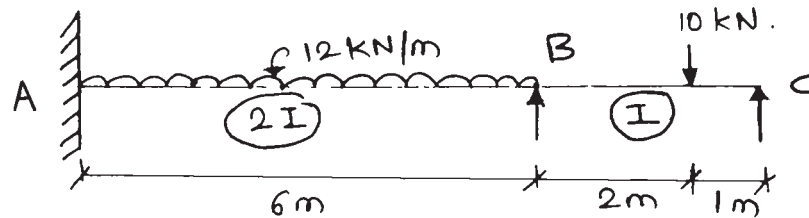

Fig. No. 5
- a) Calculate the support moment using moment distribution method Refer Fig. No. 5.